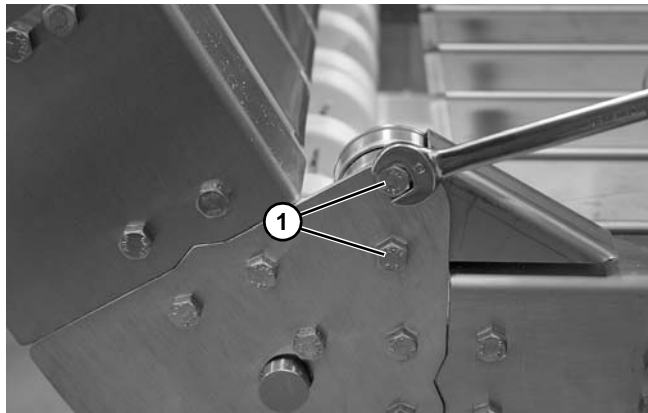
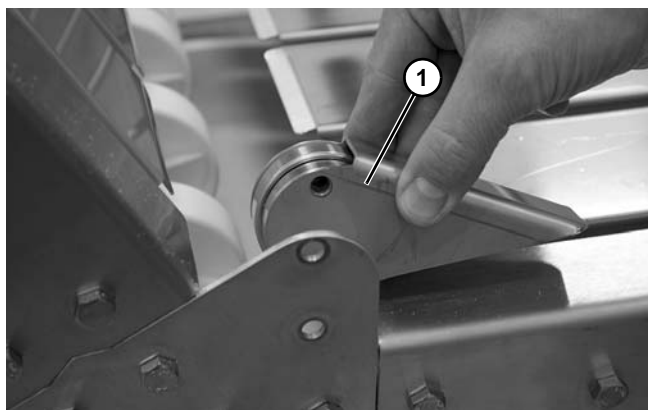

Figure 117
Figure 118
1. Remove screws (Figure 117, item 1).
2. Remove bearing guard (Figure 118, item 1) with bearing.
1. Remove screws (Figure 117, item 1) and bearing guard (Figure 118, item 1).